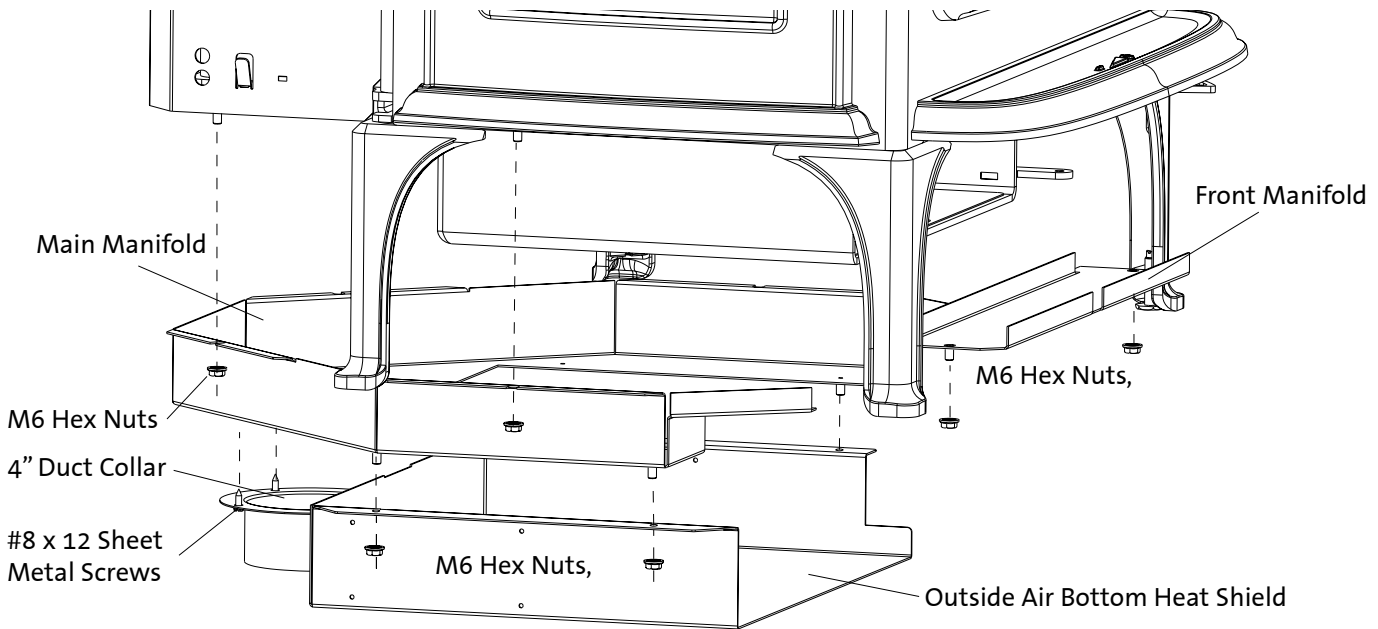

Figure 25. Outside Air Kit parts identification and orientation.
See fig. 25, page 24 and the parts listing on page 25 for the configuration and part number of any firebricks that require replacement. Order through your local Jøtul Authorized Dealer.
4. Orient the Front Manifold Panel as shown in figs. 25 and 26. Set it in place above the ash housing between the front legs of the stove.